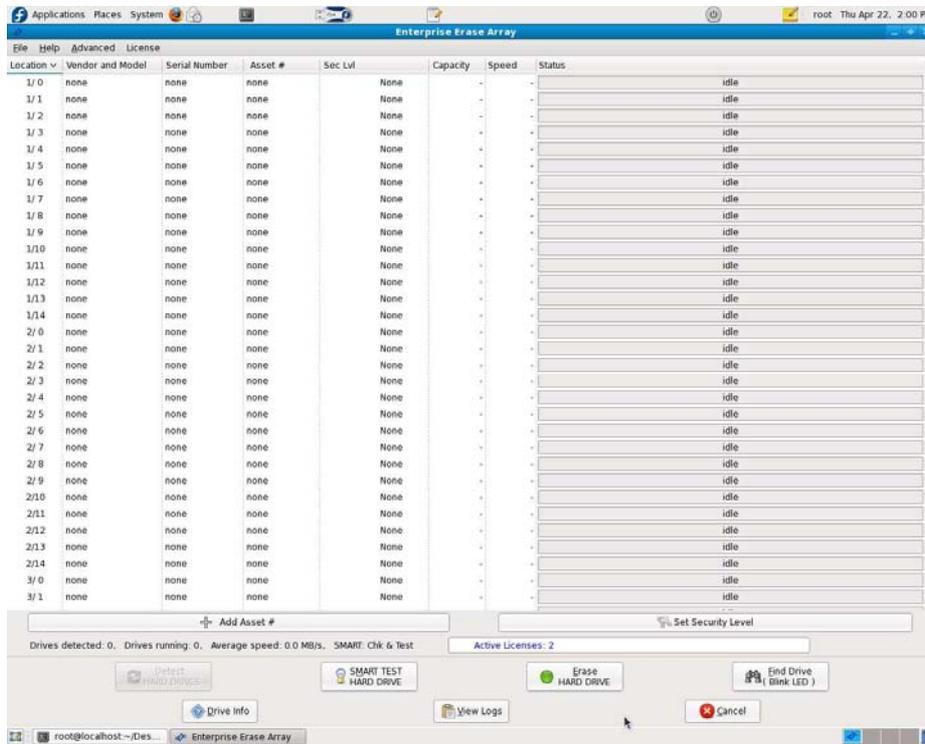

Figure 3.2 – Enterprise Erase Array Main User Interface Screen (GUI)
3.7 After the software launches, you will see the main user interface (GUI). Figure 3.2 shows this interface.